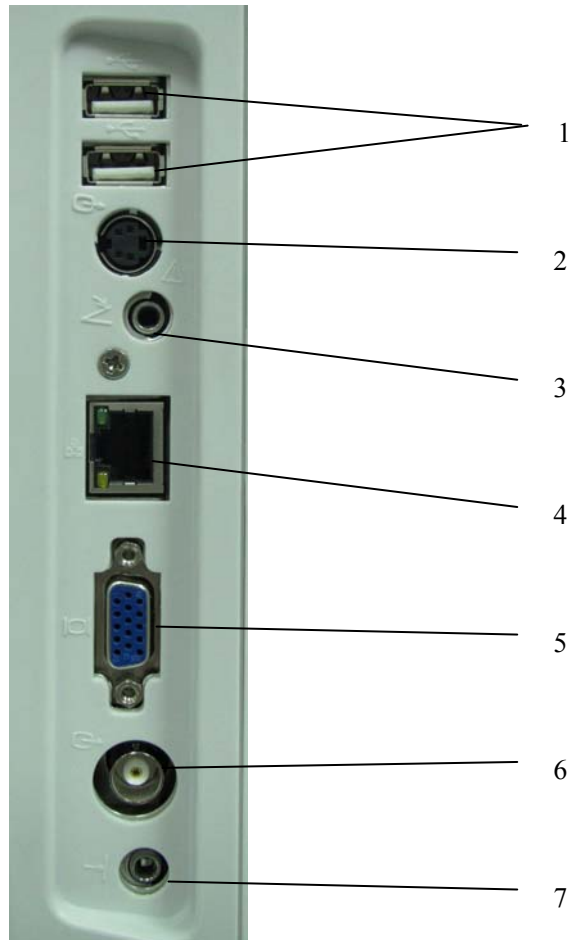

Figure 4-7 I/O Ports on the Left Panel
4. Parts and accessories must be connected to the I/O ports designated in Figure 4-7. For example, only the supplied or recommended USB device can be connected to the USB ports; DO NOT connect telephone line to the network port; DO NOT connect earphone to the footswitch port or remote port.
Reference Figure 4-7 I/O Ports on the Left Panel